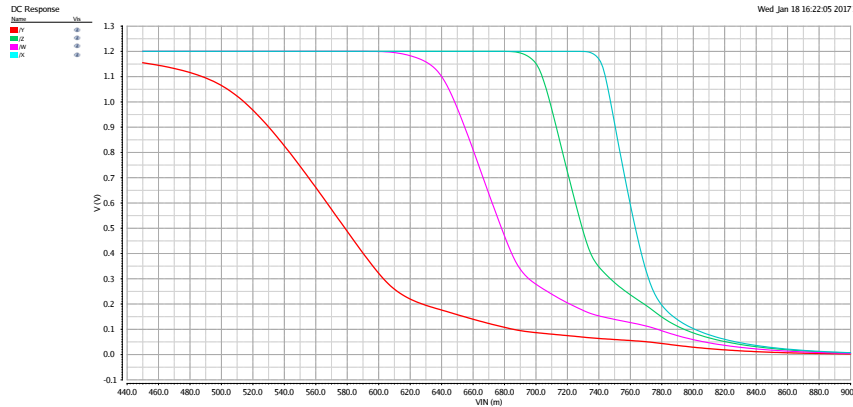

Figure 12.7: Plot of the four inverter curves resulting when all four inputs are connected together in the multi-input gate in Figure 12.3.
- a) X (red) is Y4, Y (green) is Y3, and W (purple) is Y2. Motivation: With all inputs connected together we have four inverters with different p-to-n current and thus resistance ratios. Assuming that nMOS transistors have twice the current of pMOS transistors (which we know is very close to reality for the 65 nm process), the p-to-n resistance ratios for Y1–Y4 are  $2R/R$ ,  $R/2R$ ,  $0.67R/3R$  and  $0.5R/4R$ . Since the threshold voltage are equal a 2-to-1 scaled inverter, that is one with  $R/R$  resistance ratio, should have  $V_{sw} = V_{DD}/2$ . In Figure 5.5 we have  $V_{sw} > V_{DD}/2$  for all the curves. So then the VTC that is **not** drawn has to be the one where the p-to-n resistance ratio is larger than 1, that is curve Y1. The ordering of the three drawn VTCs has to be according to the p-to-n resistance ratios. In Figure 12.7 a diagram of all four VTCs is shown.
Consequently, the VTC that is **not** drawn has to be the one where the p-to-n resistance ratio is larger than 1, that is Y1, which placed to the right of the other curves. The ordering of the three remaining VTCs has to be according to the p-to-n resistance ratios with Y4 having the lowest  $V_{sw}$  and then Y3 and Y2. In Figure 12.7 a diagram of all four VTCs is shown (unfortunately the line colors not the same as in the problem).